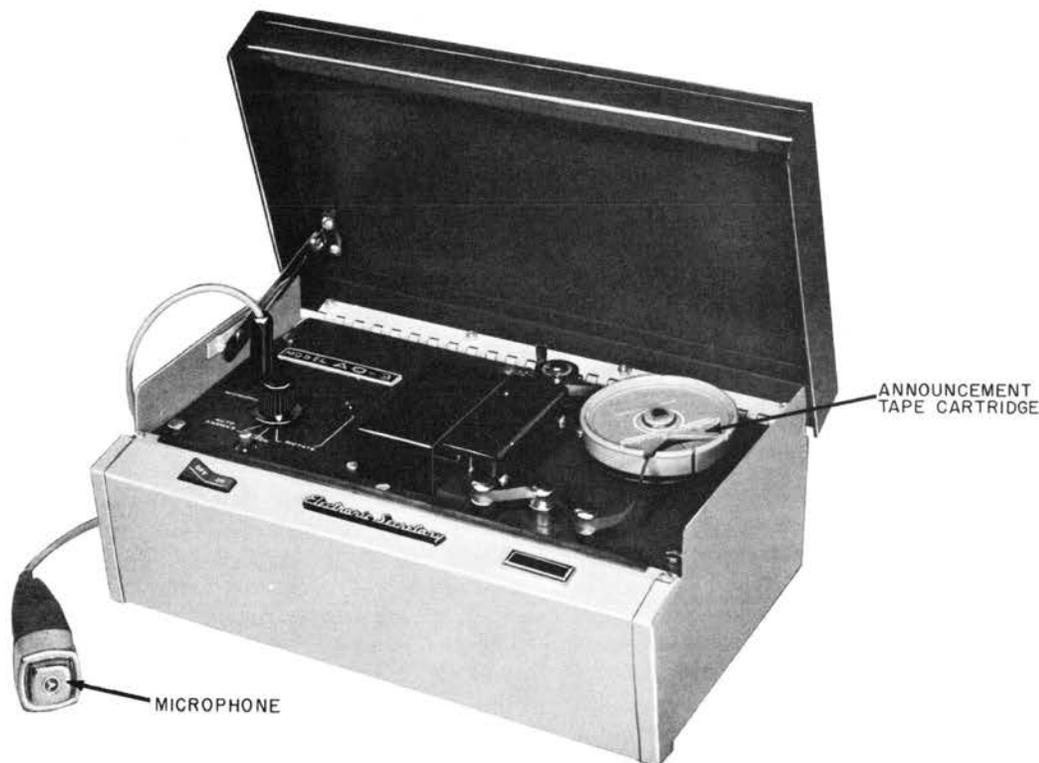

Figure 1. Model AO-3 (front view).
1.01 The Electronic Secretary ® Model AO-3 (see figure 1) is an automatic answering device utilizing a magnetic tape cartridge as the announcement message medium. The Model AO-3 has no provision for recording incoming messages and is designed for applications such as motion picture theatres, service organizations, physicians, churches, etc. when recording of the calling party's message is not essential.